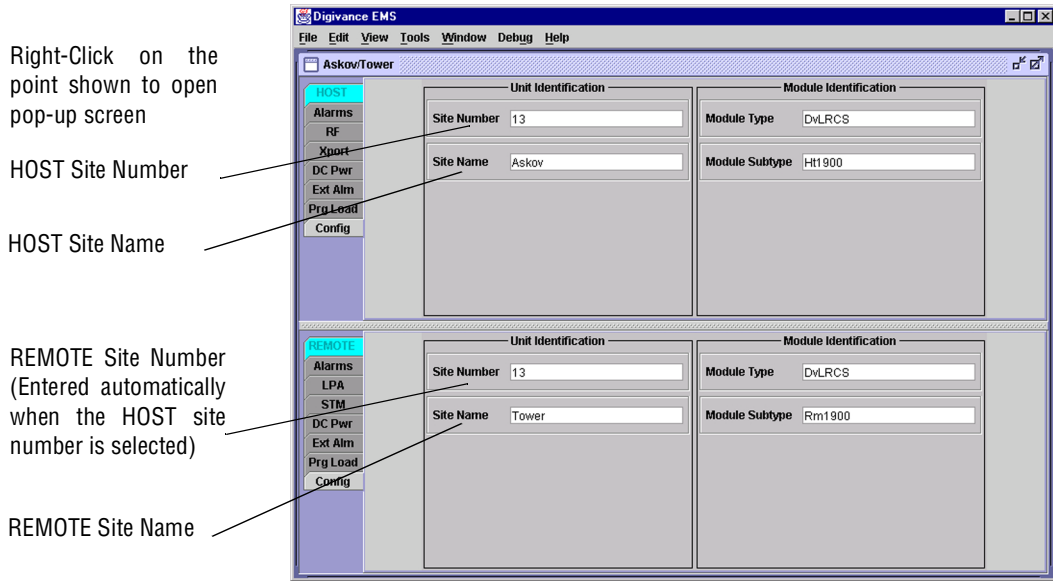
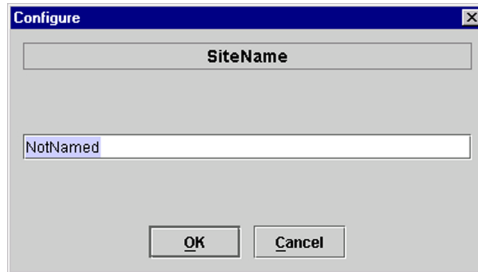

Figure 4-6. HOST and REMOTE Config Displays
Figure 4-7. HOST Site Name Pop-Up Screen
1. Click on the **HOST Config** tab and on the **REMOTE Config** tab. The **HOST Config** display and the **REMOTE Config** display will open within the EMS main window as shown in Figure 4-6.
2. Right-click on the **HOST Site Name** field (see Figure 4-6). The **Site Name** pop-up screen will open as shown in Figure 4-7. Enter a unique name for the HOST. The name may be up to 32 characters long and must not contain any spaces. The name may include numbers, punctuation, and upper or lower case letters and must always begin with a letter. Click on **OK** to close the screen and make the changes take effect.
3. Right-click on the **HOST Site Number** (see Figure 4-6). The **Site Number** pop-up screen will open. Enter any number between 1 and 24 and then click on OK to close the screen and make the changes take effect.
4. Check the **REMOTE Site Number** field (see Figure 4-6). The **REMOTE Site Number** does not have to be entered. When the **HOST Site Number** is entered, the system will automatically enter the same number for the **REMOTE Site Number**.
5. Right-click on the **REMOTE Site Name** field (see Figure 4-6). The **Site Name** pop-up screen will open. Enter a unique name for the **REMOTE**. The name may be up to 32 characters long and must not contain any spaces. The name may include numbers, punctuation, and upper or lower case letters and must always begin with a letter. Click on OK to close the screen and make the changes take effect.